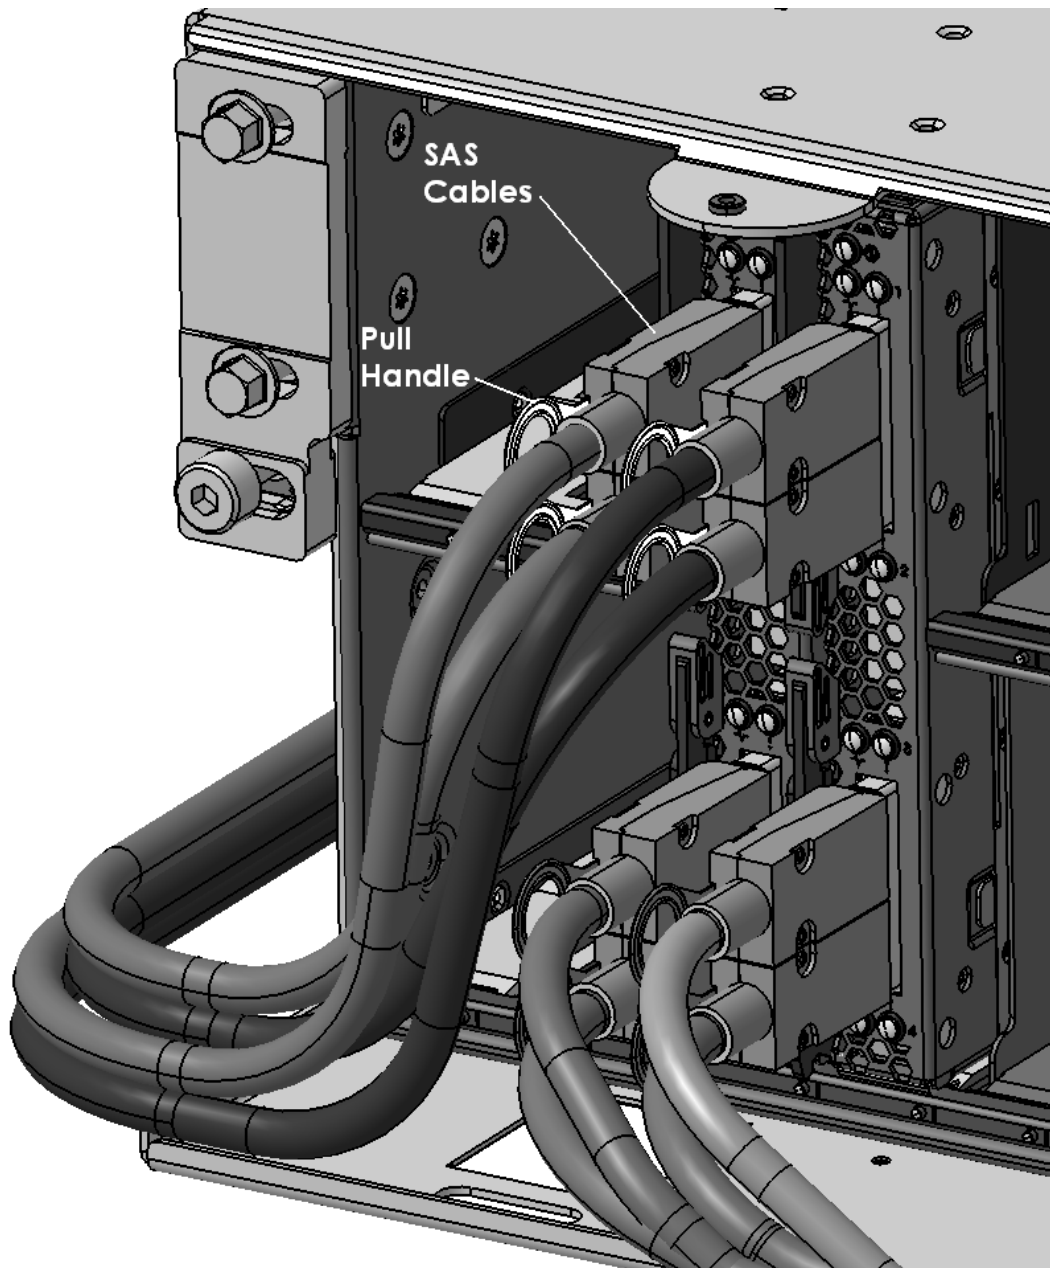

Figure 19: Disk Enclosure Port Card Cabling
The SAS cables connect to Port Card in the front and rear of the DE. All cables should be labeled to help when re-cabling the DE. Find the SAS cables that connect the DE to CECs. **If any of these cables are not labeled, label them now.** Disconnect these cables from the DE. There will be up to 32 such cables (see Figure 19). You may have to remove some of the velcro ties in order to disconnect the cables.
STEP 26 Move the Cam Followers from the storage position near EIA 5 in the lowest slot in the frame (see Figure 19 and 20) to the location of the Disk Enclosure with the failed fans.